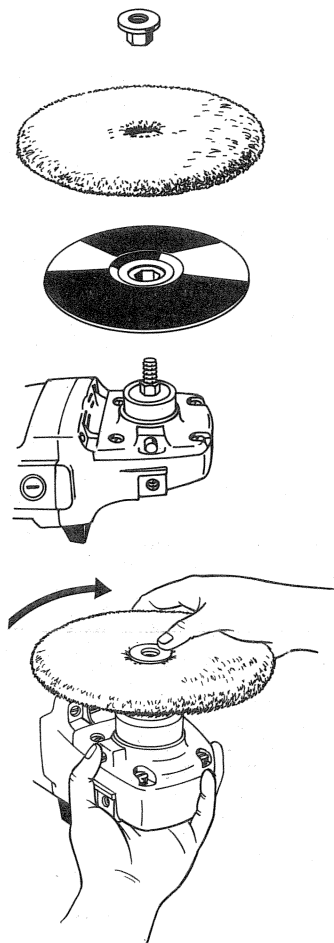

FIG. 2
**BE SURE THE TOOL IS UNPLUGGED!** Push the hub of the clamp washer through the hole in the center of the Lambswool Pad as far as it will go. Engage the hexagonal Clamp Washer hub with the hexagonal hole in the Backing Pad (Fig. 2). Holding the three pieces firmly together, place the assembly on the tool spindle. Hold the spindle lock button while turning the pads clockwise to thread them completely on the spindle (Fig. 3).